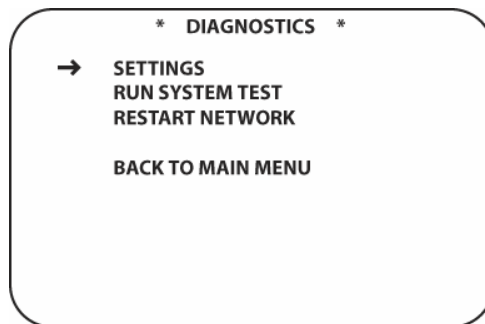

Figure 119 Diagnostics Main Menu
5. Press the **Set Button [oval 18]**. The DIAGNOSTICS screen will appear. (Figure 119)